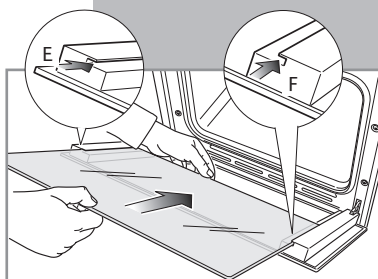

Fig. 19
- Insert the pane in the left **E** and right **F** slide guides (fig. 19), and gently slide it to the retainers **H** (fig. 20).